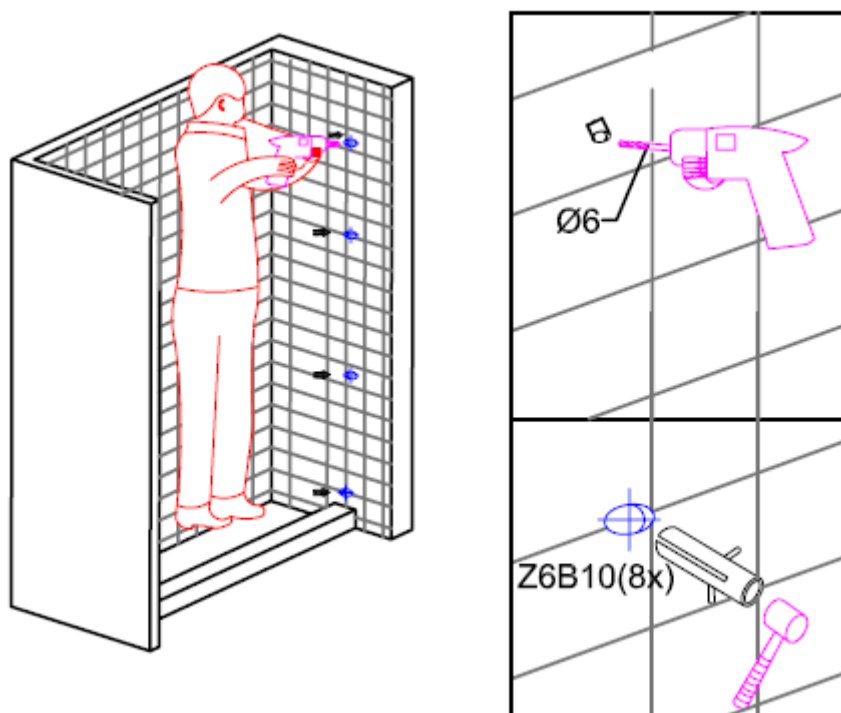

Figure 2
2. Drill the holes(\varnothing 6mm) into the wall according to the marks made and insert the wall plugs (Z6B10) into the holes, as shown in figure 2.